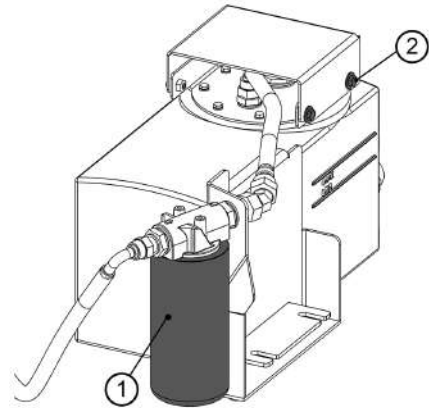

Figure 32 - Hydraulic Tank
3. Clear all debris from around the hydraulic tank (Figure 32).
4. Locate the oil filter cartridge and unscrew (Figure 32, Item 1). (A filter strap or similar tool may be required.)
7. Loosen the four M8 bolts (Figure 32, Item 2) and remove the hydraulic tank cover.
11. Refill with hydraulic oil VG32 to between the 'Min' and 'Max' lines on the tank (15 litres) (Figure 32).